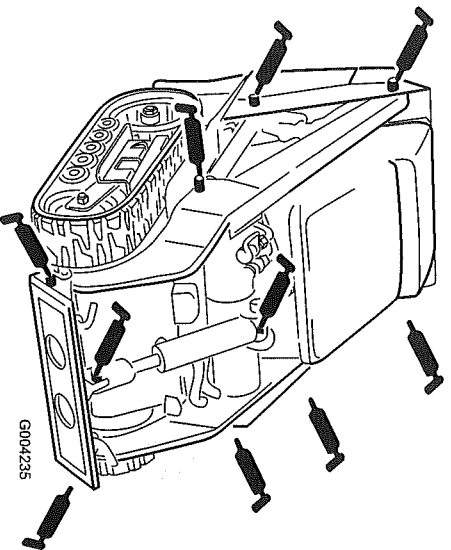
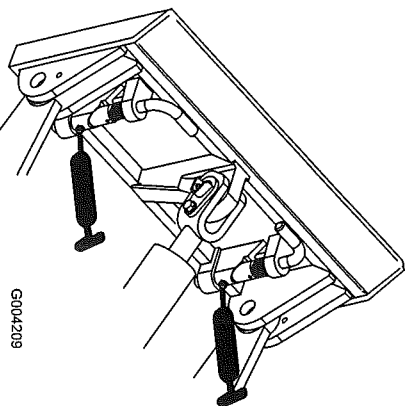

Figure 31
Figure 32
3. Connect a grease gun to each fitting (Figure 31 and Figure 32).